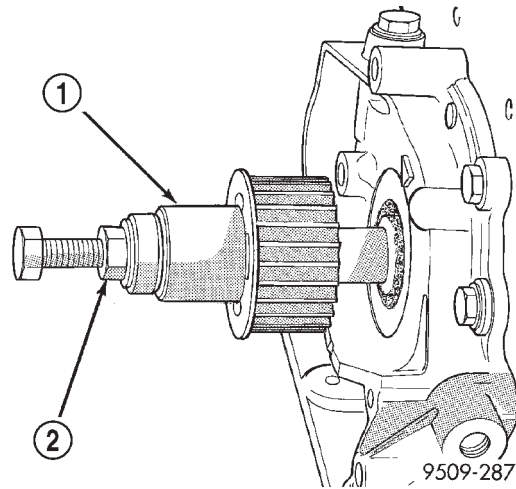

Fig. 107 Crankshaft Sprocket—Installation
- (7) Install crankshaft sprocket, using Special Tool 6792 (Fig. 107).